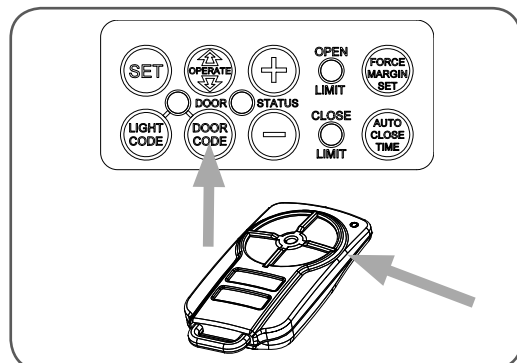

fig 35
- Briefly press the DOOR CODE button three times, then press it again and hold (will beep four times on fourth press (**Fig. 35**)).
- Press one of the four buttons on the transmitter for two (2) seconds, pause for two (2) seconds, then press the same button again for two (2) seconds.